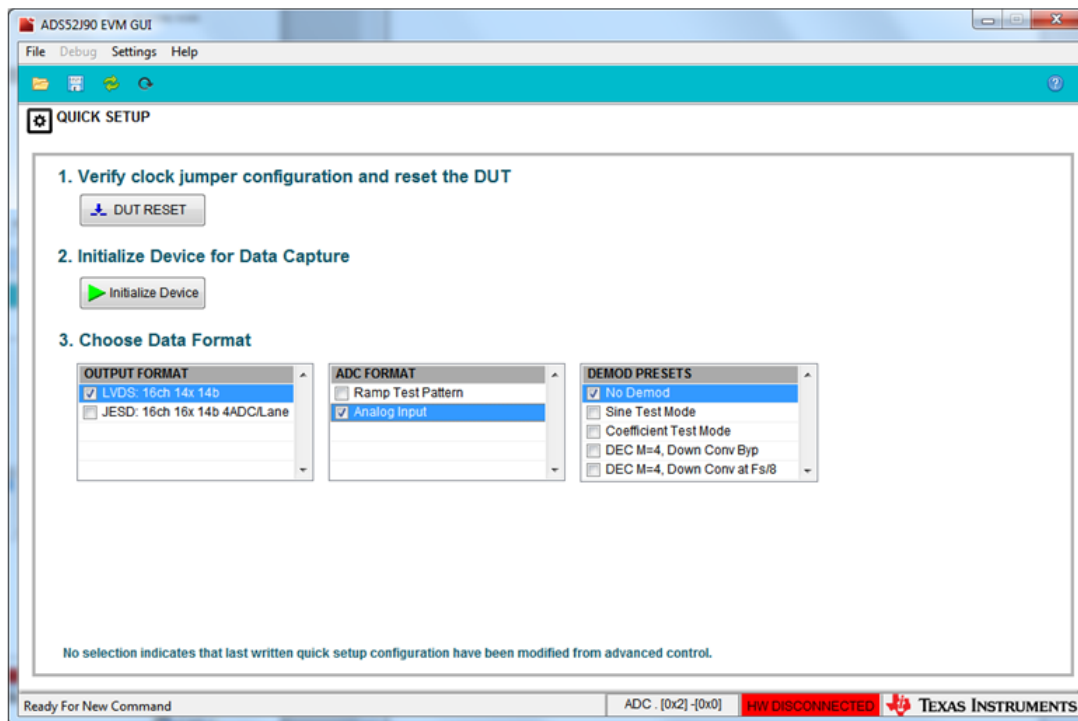

Figure 22. ADS52J90 16-Channel SINE Capture (a)
- To capture a sinusoidal input, return to the HMC-DAQ GUI and press the check box next to **Analog Input** as shown in Figure 22.